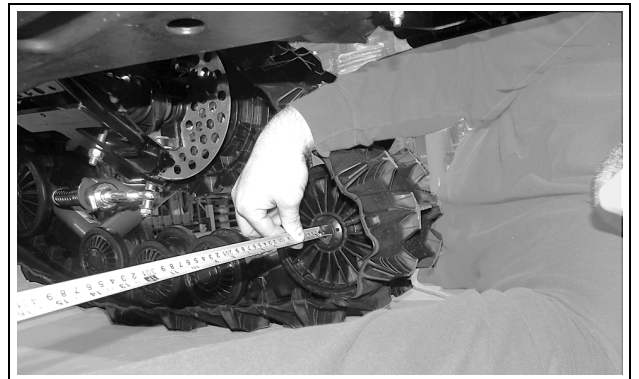

Figure 24
**Measure B:** Measure the distance inside the rear  $\varnothing 202$  mm wheels on the front Track Systems. See figures 24, 25 and 26.